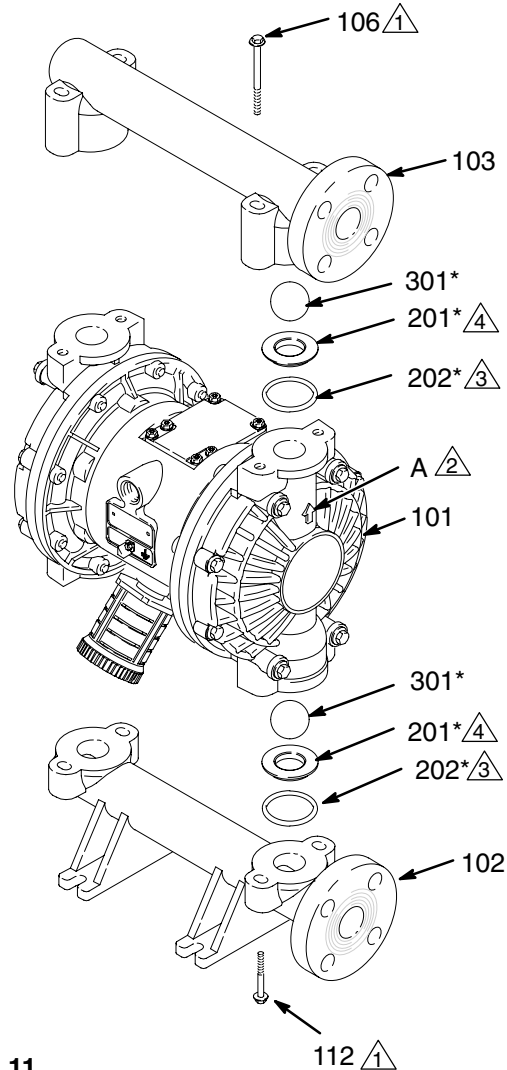

Fig. 11
3. Using a 10 mm socket wrench, remove the four bolts (106) holding the outlet manifold (103) to the fluid covers (101). See Fig. 11.
4. Remove the seats (201), balls (301), and o-rings (202) from the manifold.
2. Reassemble in the reverse order, following all notes in Fig. 11. Assemble the ball checks **exactly** as shown. The arrows (A) on the fluid covers (101) **must** point toward the outlet manifold (103).
- 2 Arrow (A) must point toward outlet manifold (103).
- 4 Beveled seating surface must face ball (301).